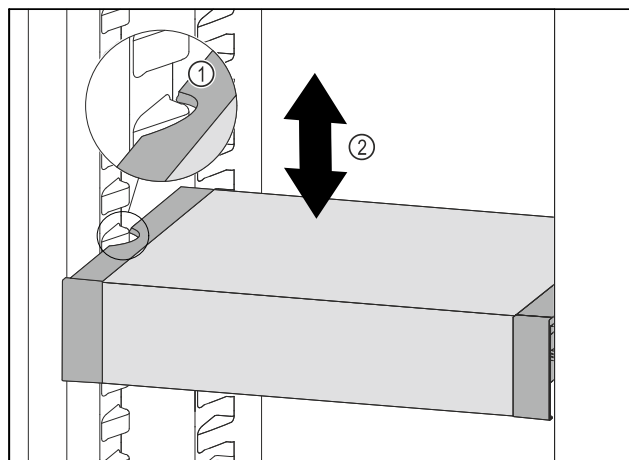

Fig. 88
- Pull VarioSafe forwards until the recesses in the side of the VarioSafe are at the level of the support rib in the refrigerator compartment. Fig. 88 (1)
- Move VarioSafe up or down in the refrigerator compartment until the desired height is reached. Fig. 88 (2)